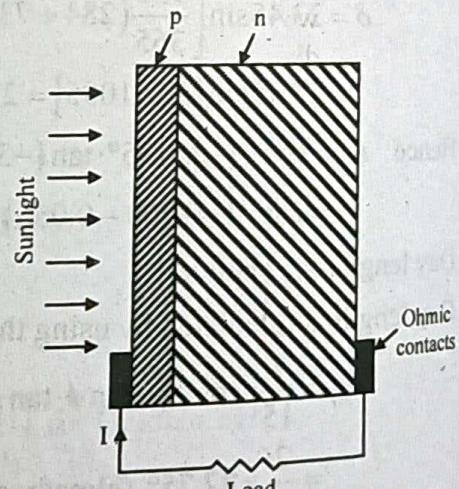

Fig: 1 Cross-section of a solar cell
b) A solar cell is composed of pn semiconductor junction as shown in Fig. 1. Solar cells can be manufactured from different semiconductor materials and their combinations. The voltage generated by a solar cell depends on the semiconductor material. The electric current produced depends upon the intensity of solar radiation and the cell surface area receiving the radiations. The maximum achievable power is about 100 W/m^2 of solar cell surface area. Pure semiconductor materials are needed for achieving high energy conversion efficiency.